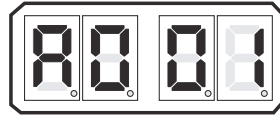

Figure 10-6: Display Function Code List
- B Depress the Up or Down Push Button to activate the Function Code List. The characters A001 will be shown on the Display like Figure 10-6: Display Function Code List